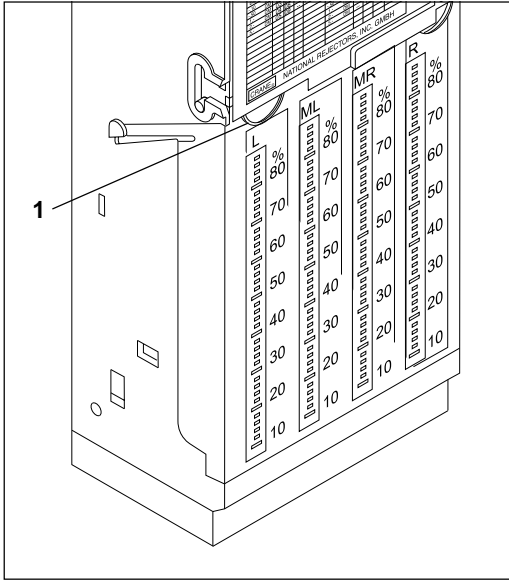

Fig. 10: Remove tube cover
2. Remove tube cover towards the front by means of the recesses (**1**) (see fig. 10).